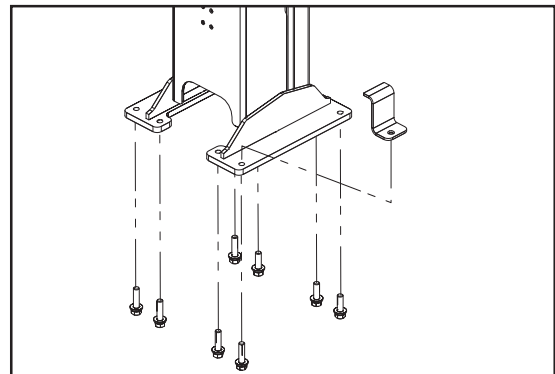

Figure 5-26. Mast 1 Base Mount Bolts Installation
2. Install the mast 1 base mount bolts. (Use Loctite 242 or equivalent on the mount bolts and torque to 23 lb-ft) See Figure 5-26.